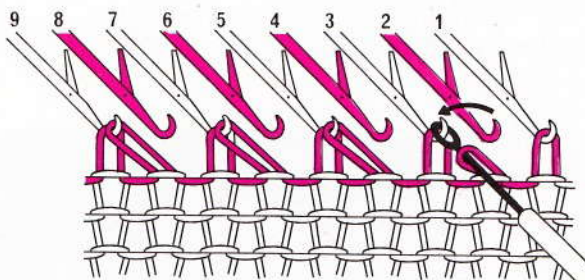

Fig. 62
6. Carriage is at left and row counter shows 15. Transfer stitch from the 2nd needle onto the 3rd needle, the stitch on 4th needle onto 5th needle and so on all along the row (fig. 62).